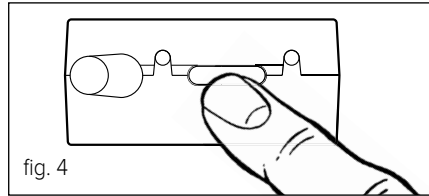

fig. 4
- Hold the button on the receiver down for 5 seconds (fig. 4); the red led will start flashing.